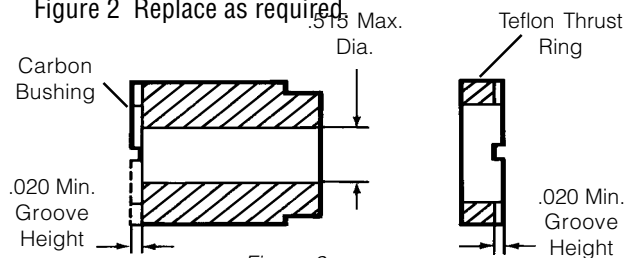

Figure 2
1. Check the impeller drive bushing (item 18), thrust ring (item 20), and shaft for cracks, chips, scoring or excess wear. See Figure 2. Replace as required.